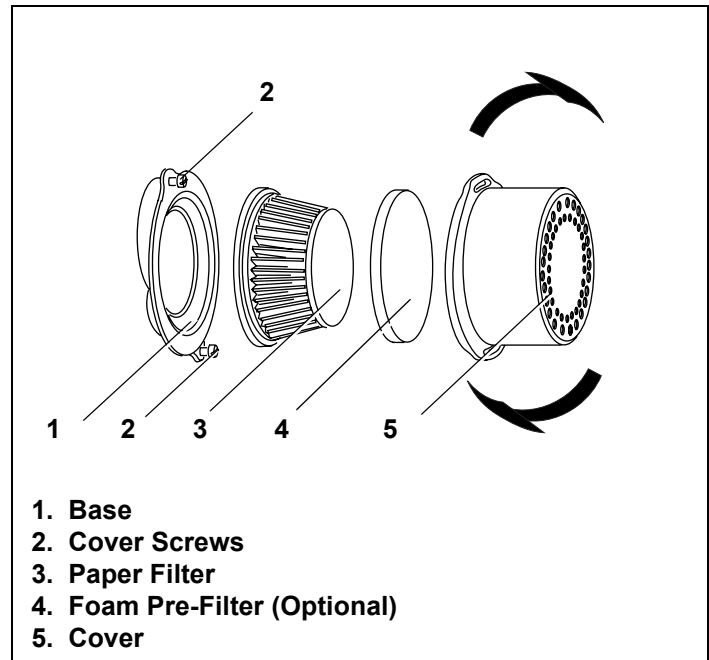

Figure 42. Type "A" Air Cleaner Assembly
Your engine has an air cleaner which helps prevent premature engine wear and failure. NEVER run engine without complete air cleaner installed on engine. Your air cleaner's filter(s) periodically needs to be cleaned or replaced. To do this, you first need to determine the type of air cleaner on your engine. Your engine will be equipped with one of the following air cleaners; Type A, B, C, D or E. See Figure 42 thru Figure 46. Follow instructions for the air cleaner type that resembles your model.
1. Loosen cover screws. See Figure 42.